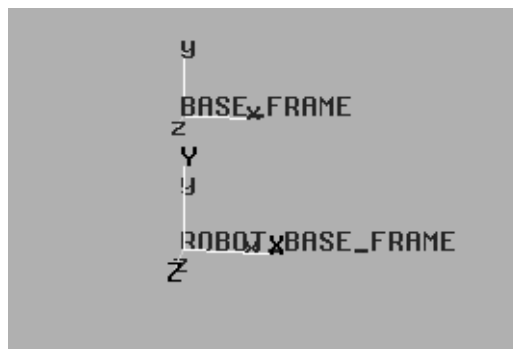

Figure 3: The frames of empty.sim
2. Switch to *MODEL* main menu and select the *Edit FRAME* menu. Press *Show FRAMEs*. 2 new frames will appear: BASE_FRAME and ROBOT_BASE_FRAME (Figure 3).